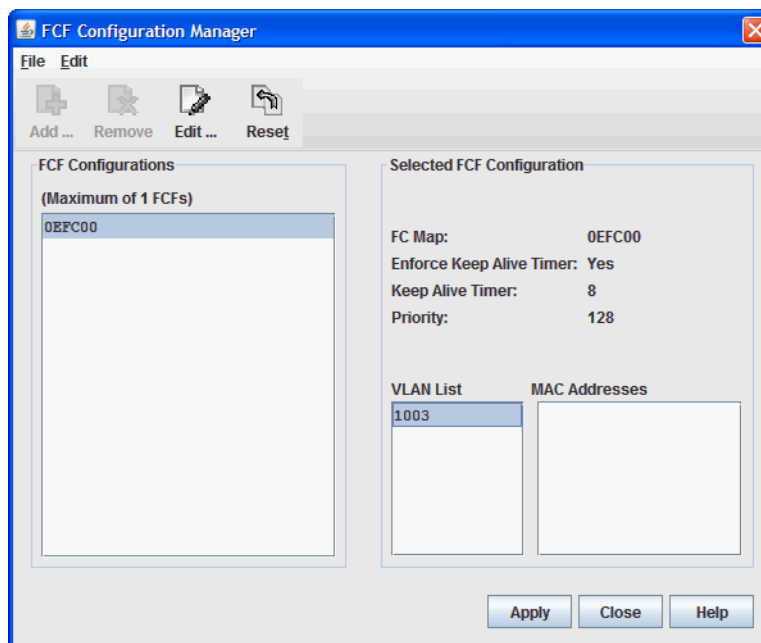

Figure 10-5 Virtual Fabric Extension Module FCF Configuration Manager
5. In the FCF Configuration Manager window (Figure 10-5 here), change the FCoE mapping to VLAN 1003: